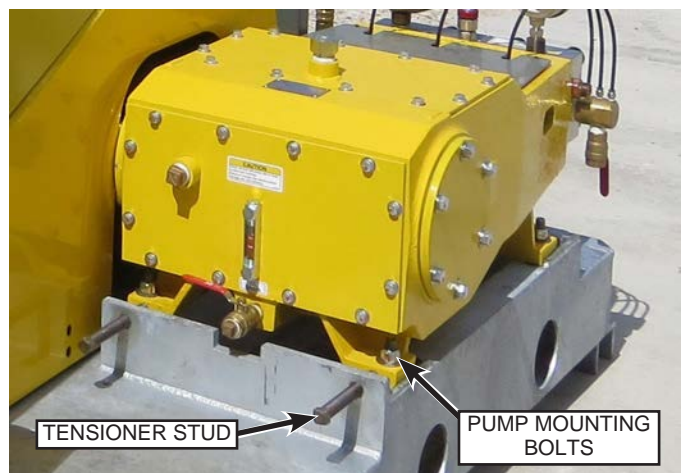

Fig. 118: Adjustment Hardware
1. Loosen the four pump mounting bolts (Fig. 118). the bolts are located on each corner of the pump.